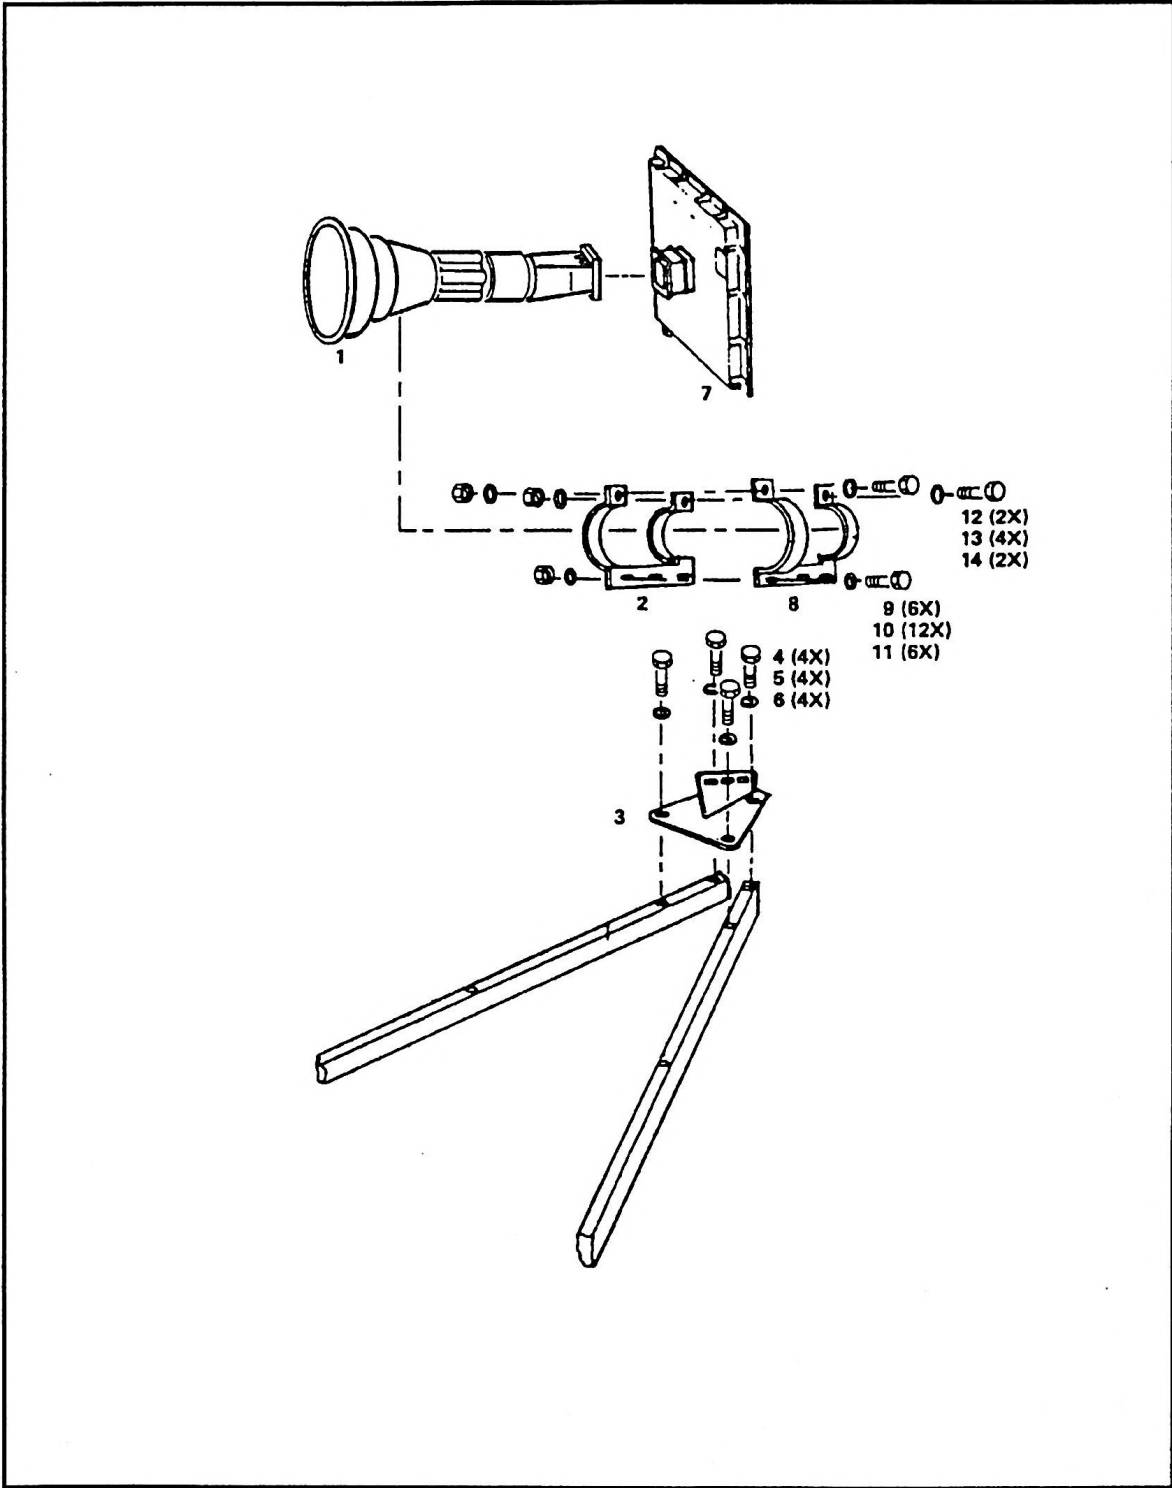

Figure 5-5. Downconverter/Feedhorn Assembly, Exploded View
2. Assemble the feedhorn/downconverter assembly. Place the weatherproof gasket properly on the downconverter, then attach the feedhorn to the downconverter (as shown in Figure 5-5) using six 6-32 x 1/2-inch SS cap screws (#30). Be sure the weatherproof gasket is properly positioned between the feedhorn and the downconverter before tightening the screws.
3. Attach the feedhorn mounting bracket (#5) to the throat of the feedhorn assembly by removing the clamps (#4) and re-assembling around the feedhorn. Tighten the clamp bolts only finger-tight. Attach the entire assembly to the feed mounting plate as shown in Figure 5-5. Push the feedhorn back away from the reflector as far as possible before tightening the hardware. Make sure the bottom of the feed mount bracket is flush across the entire top of the feed mounting plate.